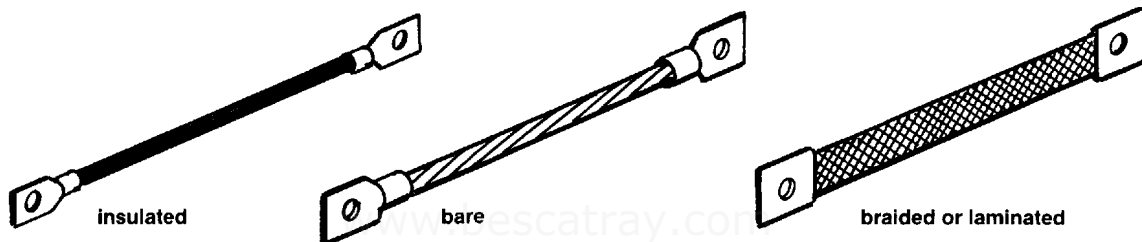

Figure 4.62
4.7.4 How To Install Bonding Jumpers (See Figure 4.62.)